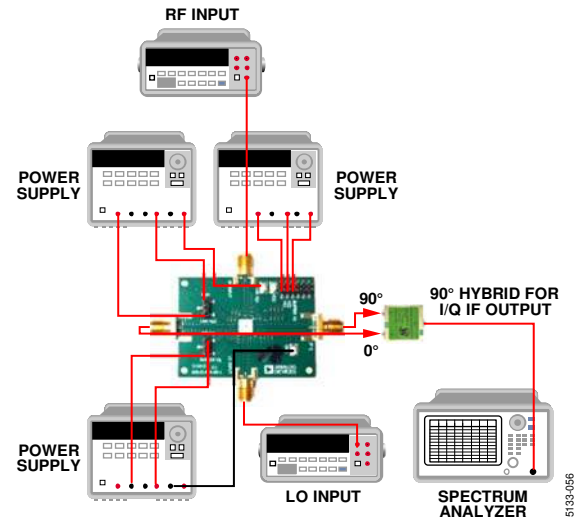

Figure 55. HMC8108 Lab Bench Setup
3. Turn off the LNA\_VG1, LNA\_VG2, BUFF\_VG, MIX\_VG, and VCTRL power supplies. Refer to Figure 55 for the HMC8108 lab bench setup.